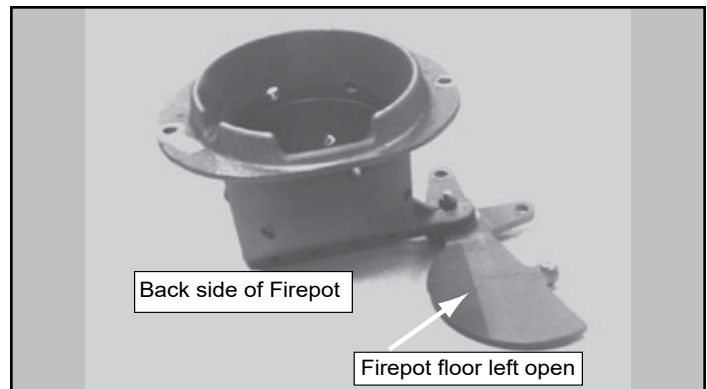

Figure 16.2
- c. The fire pot floor plate must be fully closed when finished (**Figure 16.2**).